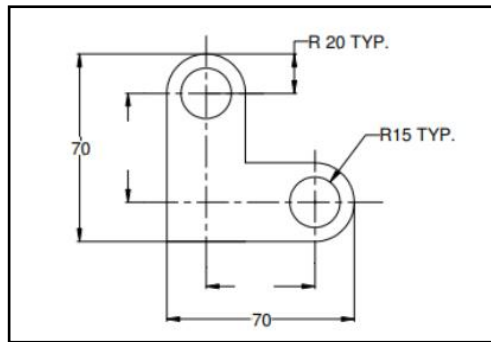

Figure 9.2. Progressive holed Die
- A progressive die is shown in figure 9.2 while the piercing punch blanks out a portion of the metal in which two holes had been pierced at a previous station Thus after the stroke two holes will be punched each stroke of the press produces a required finished component using figure 9.2